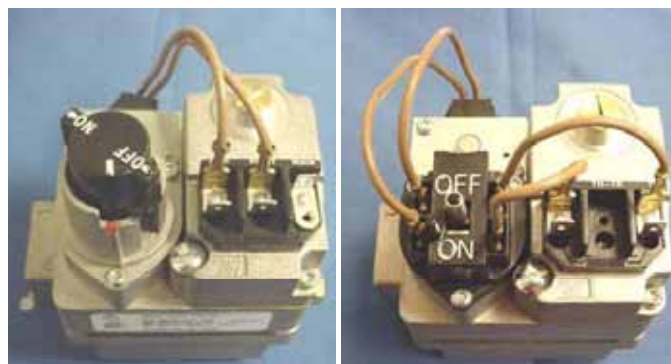

Figure 29: Typical Gas Valve
3. Turn gas valve knob or switch to "ON" position (See Figure 29).
4. Turn gas valve clockwise to "OFF" position (See Figure 29).